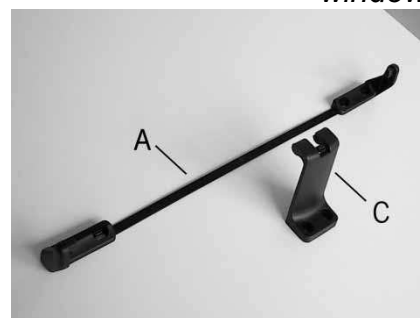

Figure 6
C. Select the correct form of brackets (Fig. 6).